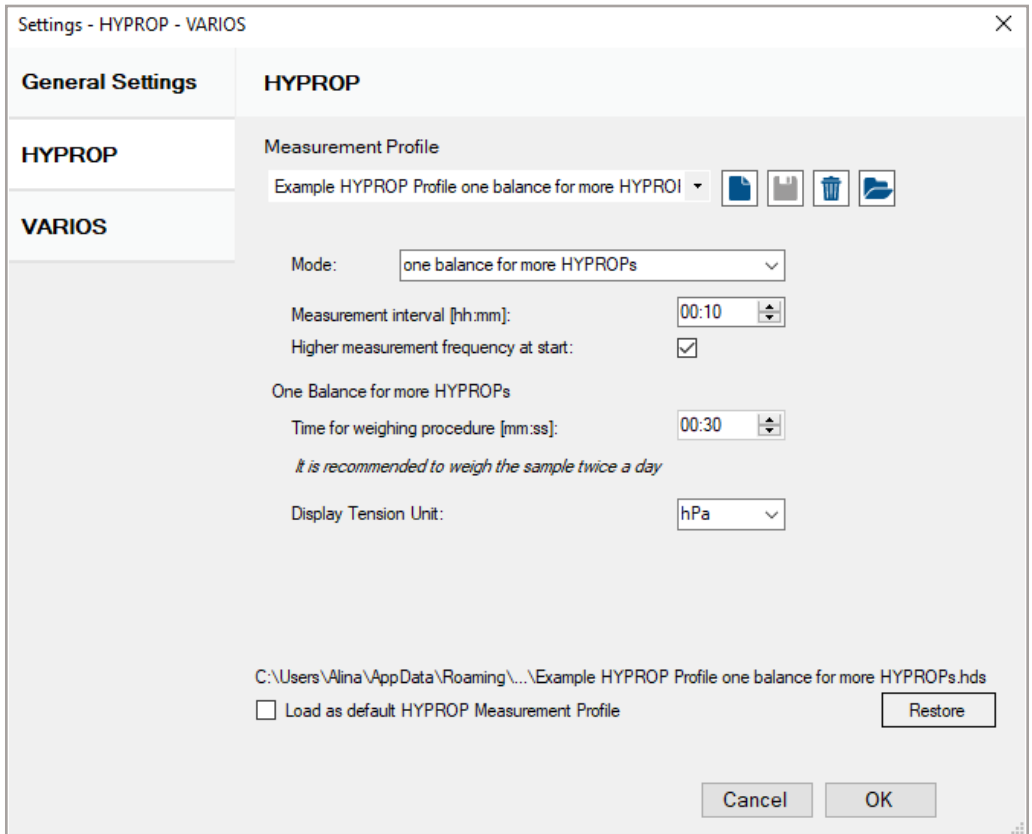

Figure 66 Example HYPROP profile one balance for multiple HYPROP's
2. One balance for more HYPROPs (Figure 66)